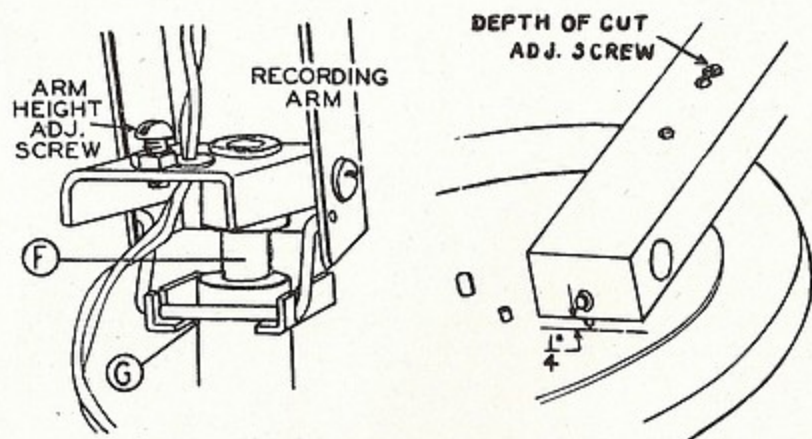

Figure 1
to be incorrect, and an adjustment of the ARM HEIGHT ADJUSTMENT SCREW should be made so that the lower edge of the front end of the arm is EXACTLY  $5/16$  inch. To make this adjustment, raise the arm and loosen the lock nut which holds the adjusting screw in position (See Fig. 1). Turning the screw to the left raises the arm and to the right lowers the arm.
3. The depth of cut adjusting screw is located to the rear on the top of the recording arm (See Fig. 1). Turning the screw to the right (clockwise) *increases* the depth of cut, and turning the screw to the left (counter-clockwise) *decreases* the depth of cut. One turn of the adjusting screw makes a noticeable difference in the depth of the groove, therefore, the adjustments should be made in quarter or half turns, rather than in complete turns either way.